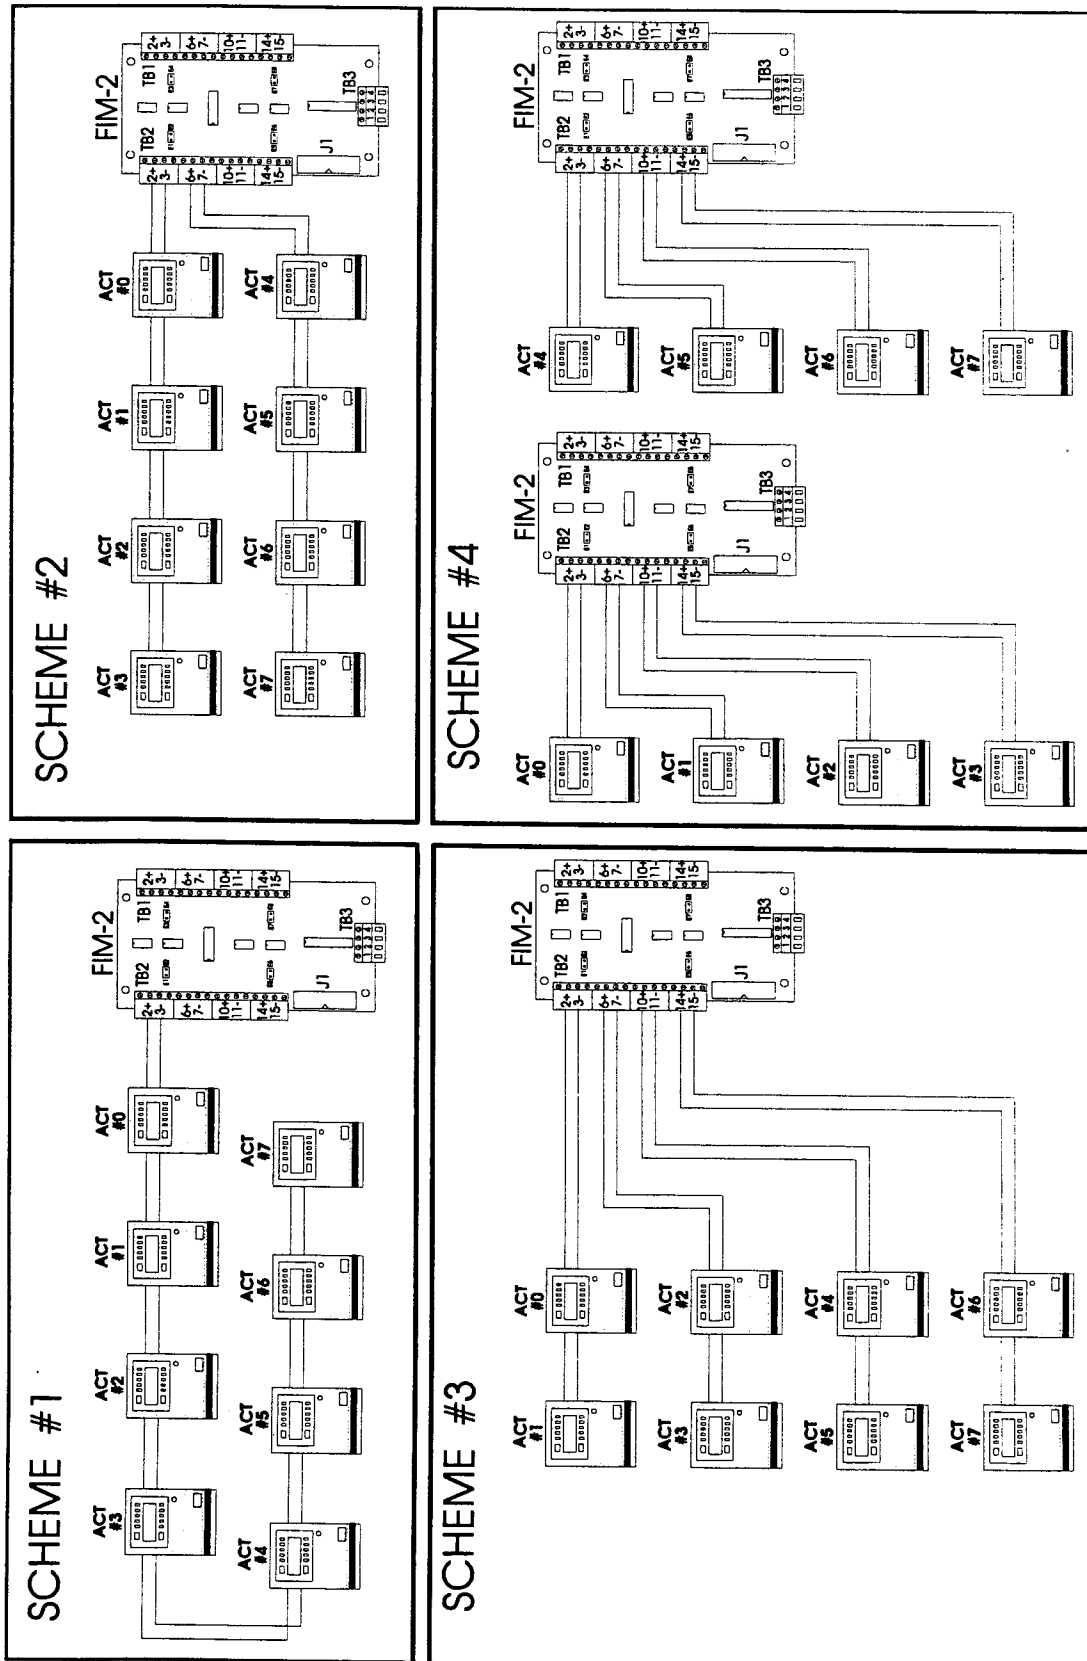

Figure 3-49. ACT-4/E/D READER CONNECTION SCHEMES
The FIM board interfaces directly to the RTU 175C Processor Board connector J3 via a 20-conductor ribbon cable from the FIM J1 connector. The connections provided for each reader channel include connections for RS-485 Data + and -, as well as connections to distribute reader power directly from the FIM, if a local power supply is connected to the FIM via TB3 (see Figure 3-49). Door Contacts and Request-to-Exit devices are typically connected to, controlled and monitored by the ACT unit, however they can also be connected and monitored at the RIM board. RIM-8 or RIM-16 boards can be used with FIM-type Access Control. Door strike control is either from the ACT unit or via a ZPR-8F (ZPR-FIM) module installed in the RTU enclosure (see Paragraph 3.7.9.1 and Figure 3-52). Refer to the specific ACT unit manual for the particular connections and configurations.
The serial RS-485 communication provides the capability for multidropping numerous ACT readers and/or ACT interface devices on a single communication channel. Up to eight (8) access control ACT units can be connected on a single channel of the FIM board, or spread across two (2) channels or four channels of a single FIM, or each of the eight possible ACT units can be connected to a separate independent channel, in which case two (2) FIM boards will be required. Each of these possible configurations, or connection "Schemes", must be selected with jumpers on the 175C Processor board in order for the processor to properly communicate with each ACT unit. An example of each of these connection Schemes is shown in Figure 3-49. (For ACT-5 Stations, refer to the ACT-5 Manual for details of the connection Schemes.)